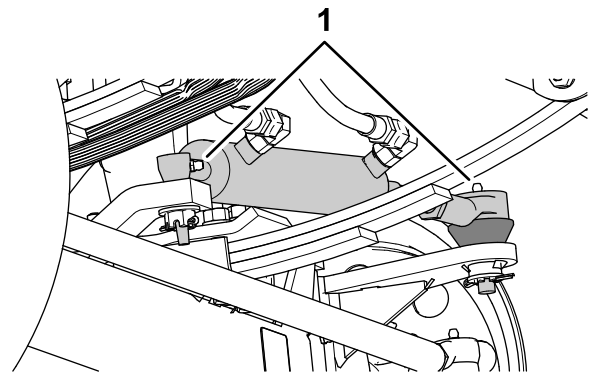
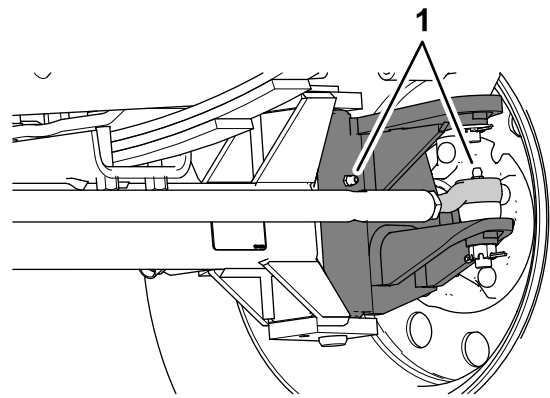

Figure 63
Figure 64
1. Wipe the grease fittings clean (Figure 63 and Figure 64).
2. Pump grease into the grease fittings (Figure 63 and Figure 64).
Note: The grease fittings positions are illustrated in Figure 63.